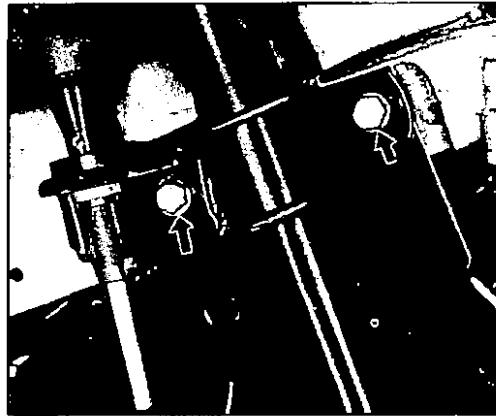
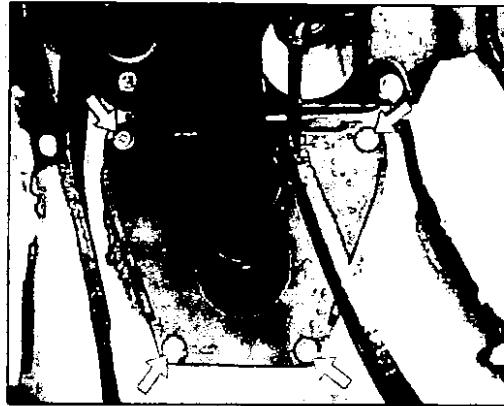

Fig. K.4 Steering column upper attachment bolts.
Fig. K.5 Steering column cover plate.
4. Remove the bolts from the steering column upper clamp (Fig.K.4.) and the bolts holding the lower plate (Fig.K.5.).